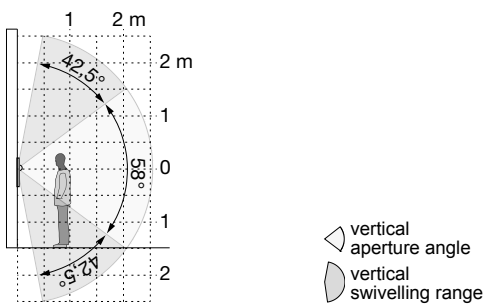

Figure 14: Vertical camera orientation
The camera can be aligned in order to adapt the camera picture to the local circumstances (Figure 14 and 15).
- Align camera (figure 14/15). The entrance area is clearly visible on the display of the indoor station.
- Fix camera again with screw (4).